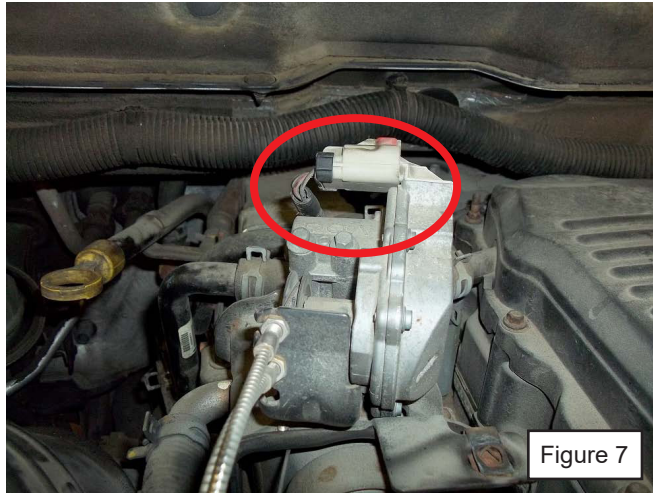

Figure 7
11. Disconnect EGR cooler bypass valve actuator electrical connector 2008-present this will close the EGR bypass valve (see figure 7). If vehicle does not have the EGR cooler bypass valve then skip this step and note in step 15.